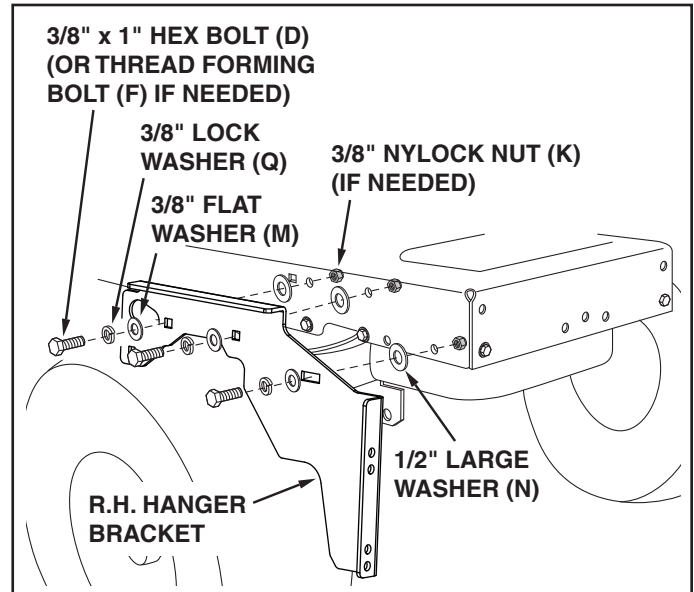

FIGURE 8
13. Attach the R.H. hanger bracket to the three holes shown on the side of the tractor frame using three 3/8" x 1" hex bolts (D), 3/8" lock washers (Q) and 3/8" flat washers (M). Use 3/8" nylock nuts (K) on inside of frame if bolts insert freely into holes. Tighten. See figure 8.